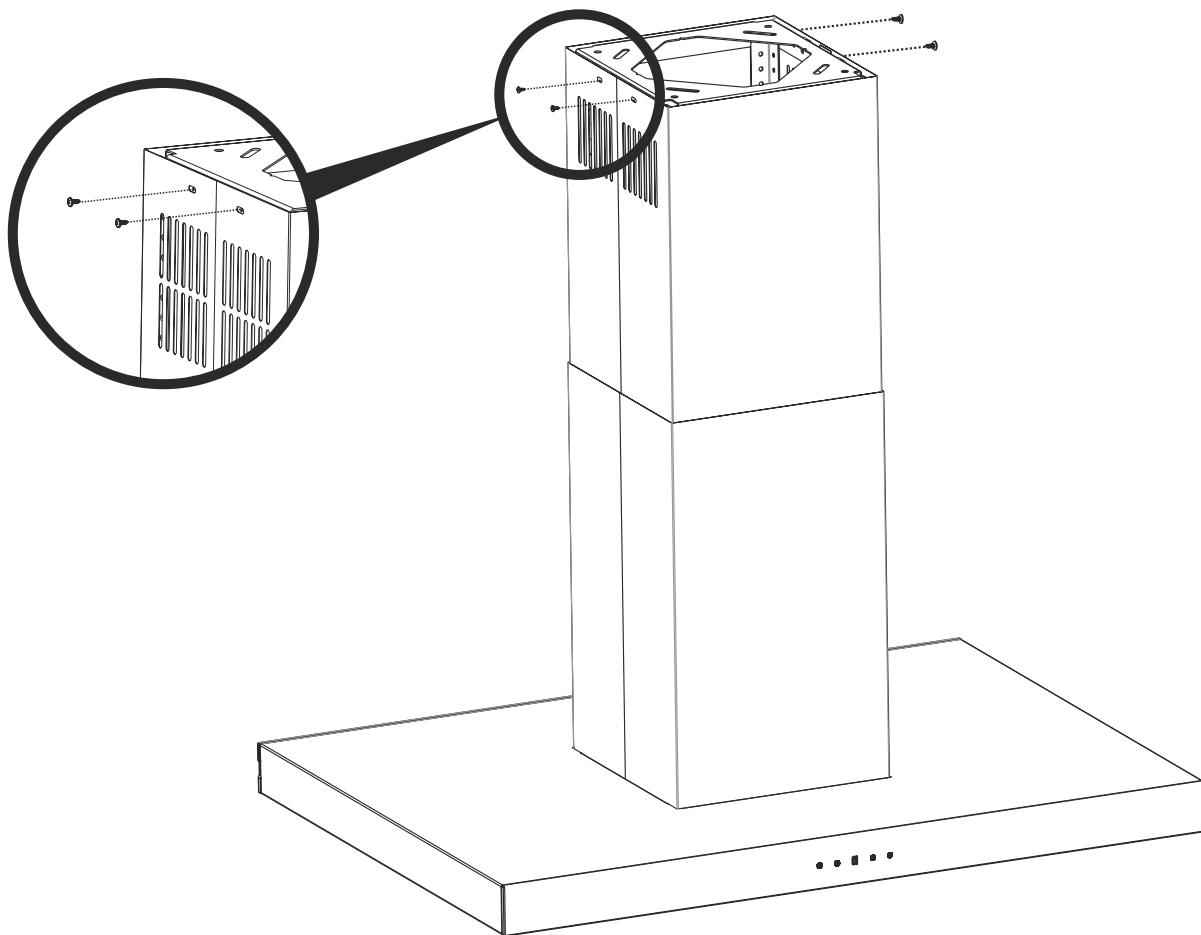

Fig. 14
▶ Fix the perforated internal flue on both sides on the ceiling connection plate with 4 screws (Fig. 14).